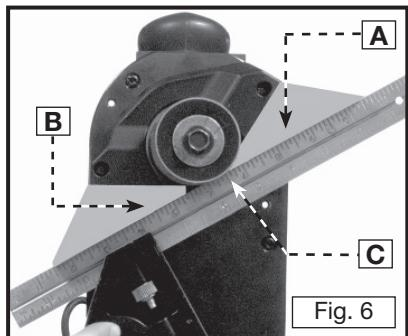

Fig. 6
2. Adjust the feed guides (A) and (B) Fig. 6, so that they are parallel to the sanding drum (C).
3. Loosen the in-feed and out-feed guides (A) and (B) Fig. 6 with a 3/16" hex wrench.
4. Place a straight edge on the sanding drum (C) Fig. 6. Tap the in-feed and out-feed guides (A and B) until the guides and the sanding drum (C) are resting on the straight edge (Fig. 6), and are parallel.
5. Tighten the 3/16" bolt to hold the out-feed guide (B) Fig. 6 in place.
6. Set the in-feed guide (A) Fig. 6 for the amount of material that you want to remove.